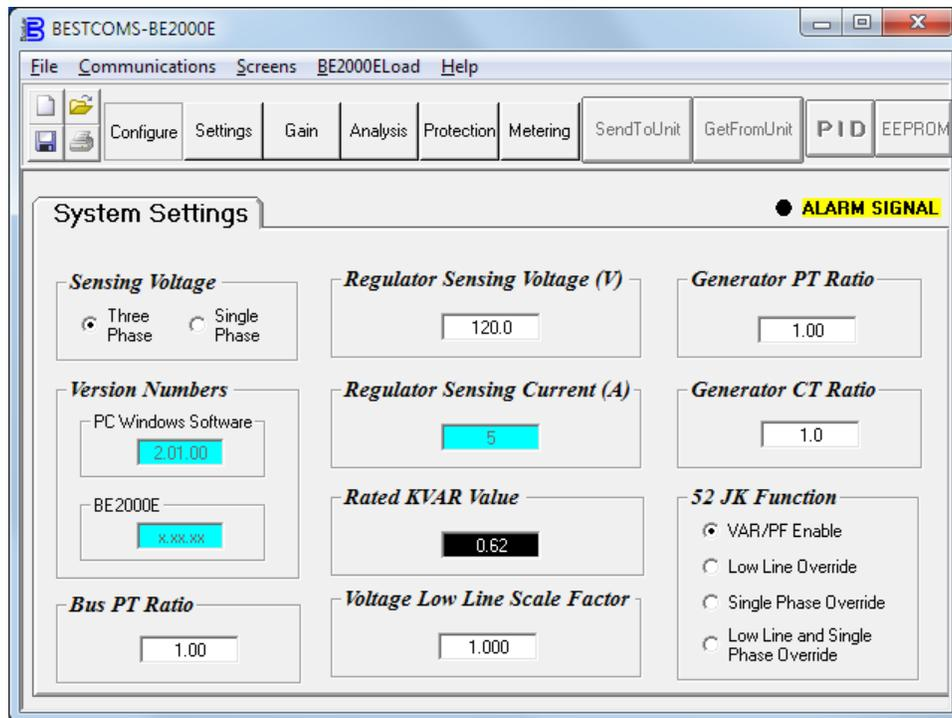

Figure 5-7. System Configuration Screen
System settings are shown in Figure 5-7 and are described in the following paragraphs.
*Automatic Voltage Regulator (AVR) - AVR Setpoint (V).* This setting field is used to enter the desired generator output terminal voltage. The AVR setpoint value range depends on the regulator sensing voltage and band setting.
*Fine Voltage Adjustment - Band Setting (%).* The Band Setting determines the minimum and maximum adjustment allowed to the AVR Setpoint. This value is expressed as a percentage of the Regulator Sensing Voltage (see Figure 5-7). Band Setting values are entered as a percentage over a range of 0 to 15 percent in 0.1 percent increments.
*Field Current Regulator (FCR) - FCR Setpoint (A).* This setting defines the field current setpoint when operating in Manual mode. The FCR Setpoint field accepts a value of 0 to 3 Adc in increments of 0.01 Adc.